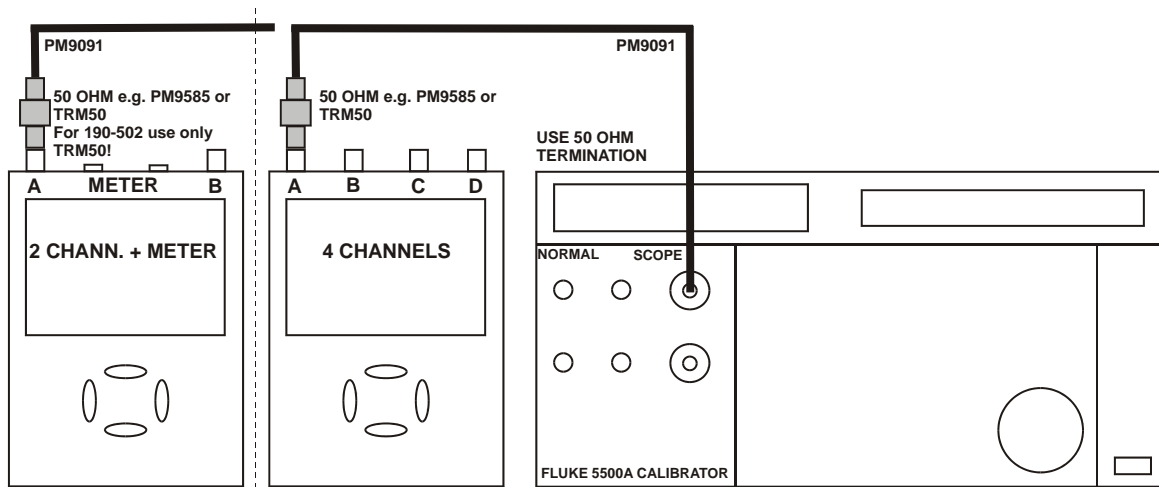

Figure 5-11. 5500A SCOPE Output to Test Tool Input A.
5. Connect the Test Tool to the 5500A SCOPE output as shown in Figure 5-11. Use 50Ω termination.
1. Connect the Test Tool to the 5500A as shown in Figure 5-11.